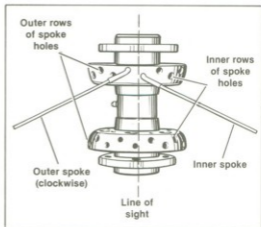
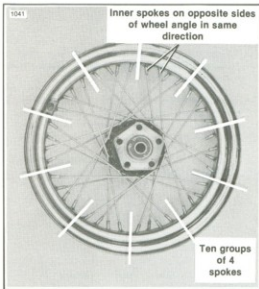

Figure 2-14. Early Style Hub
Figure 2-16. Early Style Laced Wheel
Early Style Hub — See Figure 2-14. Pick any outside spoke hole and sight straight across the hub. The first spoke hole to the right of the centerline is an inner spoke hole. Also, with the wheel assembled, all inner spokes on opposite sides of the wheel angle in the same direction and all outer spokes on opposite sides of the wheel angle in the same direction. See Figure 2-16.
- See Figure 2-14 and 2-15. Insert 10 spokes into the upper flange inner spoke holes. Swing the loose ends clockwise as far as they will go.
5. See Figure 2-16 and 2-17. The rim is divided into ten groups of spoke holes, 4 holes to a group. In each group, only one hole will be angled toward each upper flange inner spoke. Place the rim over the hub, either side up, and insert the spokes into these holes. Secure each spoke with a nipple screwed on the end about 3 turns, just enough to hold it in place.